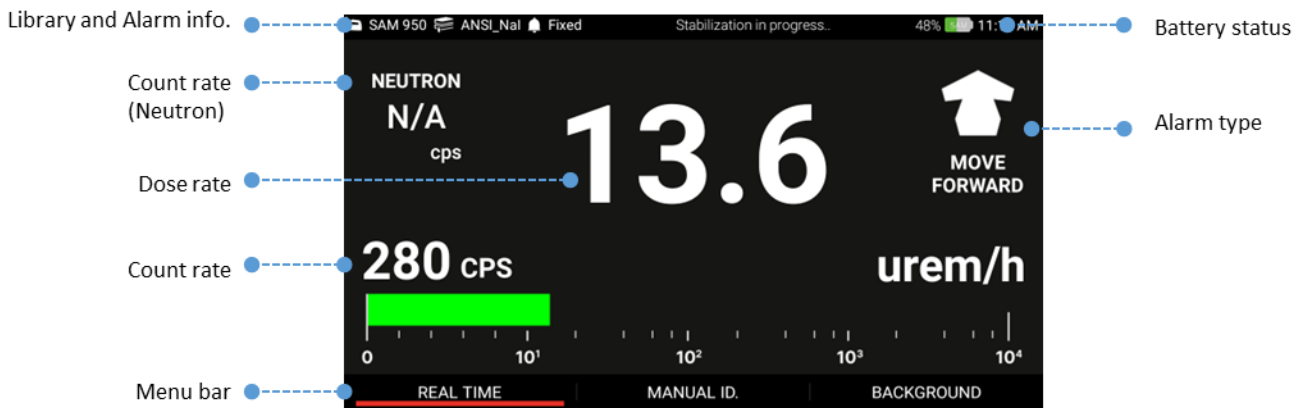

Figure 5.13. Primary GUI description
2. Figure 5.13 shows the main screen with